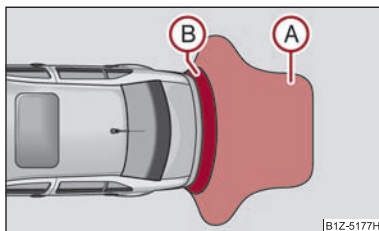
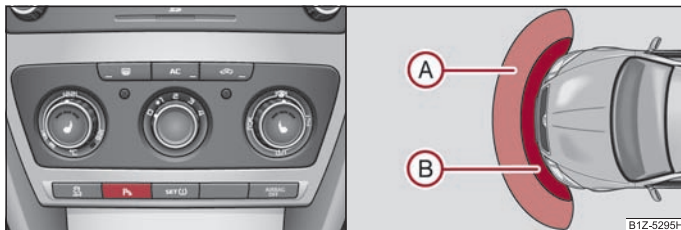

Fig. 115 Parking aid: Detection range of rear sensors
Fig. 116 Activating the parking aid/detection range of the front sensors
The clearance warning begins at a distance of about 160 cm from the obstacle (area **A** ⇒ fig. 115). The interval between the warning signals becomes shorter as the clearance is reduced.
The distance warning begins at a distance of about 120 cm from the obstacle in front of the vehicle (area A ⇒ fig. 116) and about 160 cm from the obstacle behind the vehicle (area B ⇒ page 108, fig. 115). The interval between the warning signals becomes shorter as the clearance is reduced.
The parking aid is activated when the **reverse gear** is engaged and the ignition is switched on or by pressing the button ⇒ fig. 116 - left, the symbol P with a car icon lights up in the button. The activation is confirmed by a brief acknowledgement signal.
The parking aid is deactivated after pressing the button (P with a car icon) ⇒ fig. 116 - left, or at a speed of more than 10 km/h - the symbol P with a car icon in the button is no longer illuminated.
- If a warning signal sounds for about 3 seconds after activating the system and there is no obstacle close to your car, this indicates a system fault. The fault is confirmed additionally when the symbol P with a car icon flashes in the button ⇒ fig. 116 - left. Have the fault rectified by a specialist workshop.